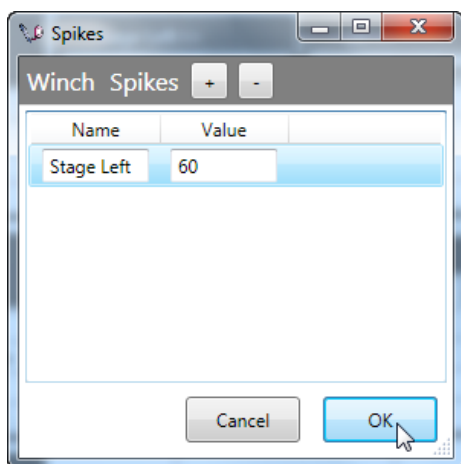

Figure 299
7. Enter a meaningful **Name** and the Spike position **Value**. Select the Spike and click **OK** (Figure 299).